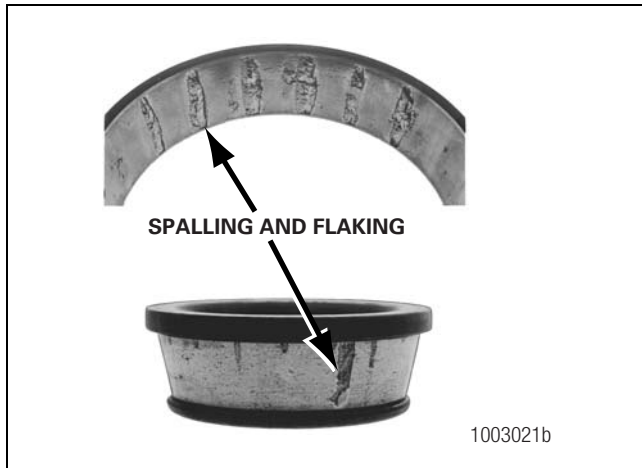

Figure 5.5
- The cup and cone inner race surfaces that touch the roller are damaged. Figure 5.5.